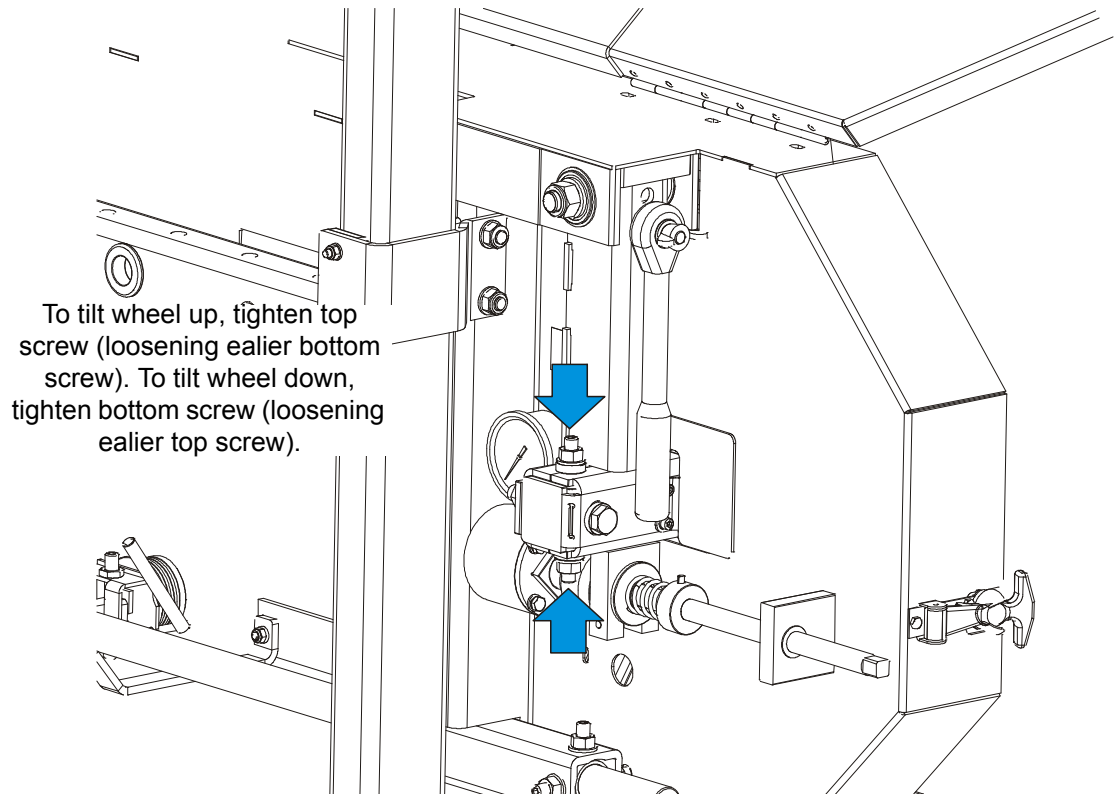

FIG. 3-5
- If the two measurements differ by more than 1/16" (1.5 mm), adjust the vertical tilt of the idle-side blade wheel. See Figure 3-5.
**See Figure 3-5.** To tilt the idle-side blade wheel up, loosen the bottom adjustment screw 1/2 turn. Loosen the nut on the top adjustment screw and tighten the screw. Tighten the top and bottom nuts.